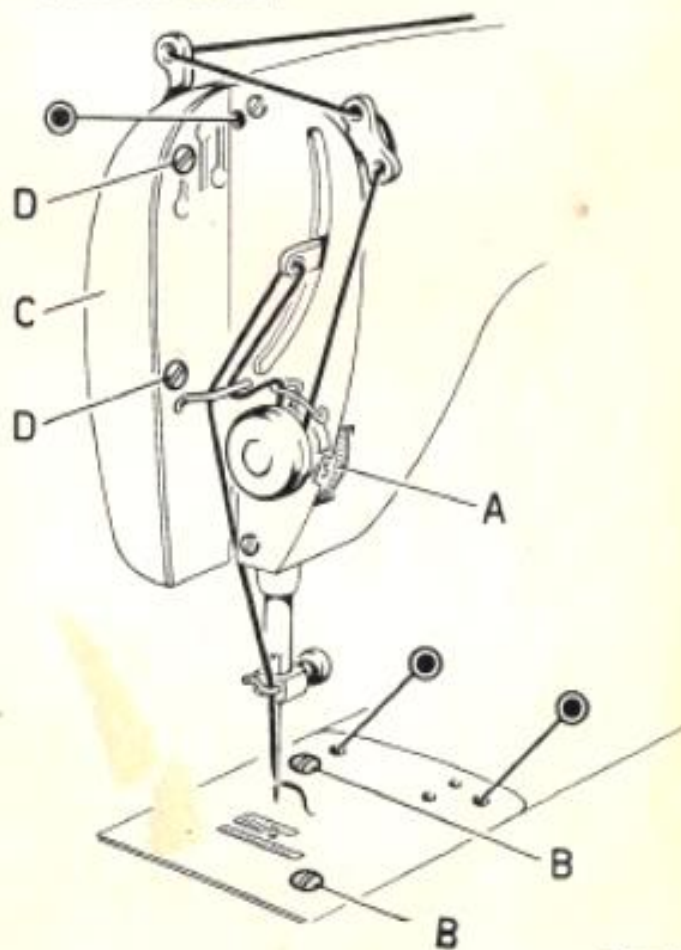

Fig. 6
- Oil the machine in all oiling points indicated in Fig. 6 with a circle mark;
Thread the machine as illustrated in Fig. 6.
— The upper tension increases by turning button « A » (Fig. 6) upwards; it decreases by turning the button in the opposite direction;
- b) Unscrew the two screws « B » (Fig. 6);
- a) Loosen the two screws « D » (Fig. 6) and remove the small carter « C »;
- d) Fasten the small carter « C » by means of the two screws « D » (Fig. 6).